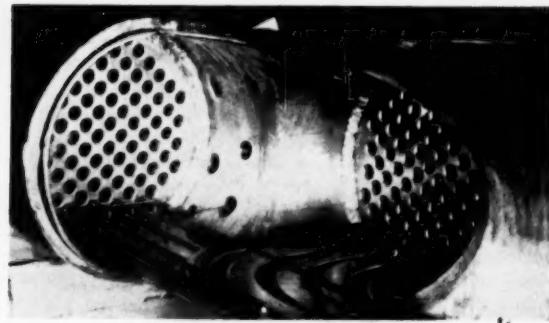
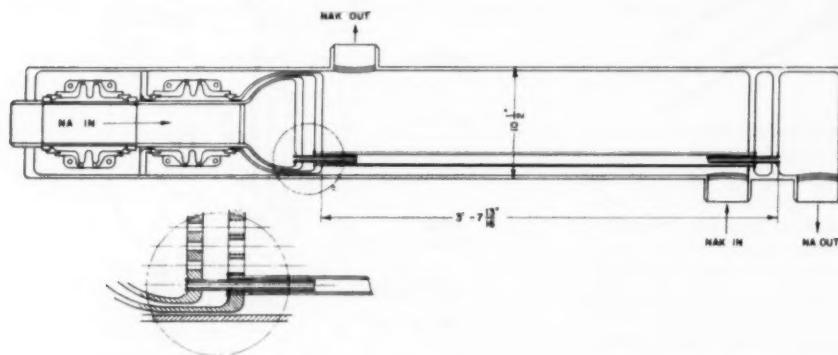

FIG. 4 SODIUM TO SODIUM-POTASSIUM HEAT EXCHANGER—FLAT TUBES
FIG. 3 SODIUM TO SODIUM-POTASSIUM HEAT EXCHANGER—CONCENTRIC TUBES
The "intermediate" liquid-metal heat exchangers are illustrated in Figs. 3 and 4. The main requirements for these units were: (1) "leak-proofness" between the fluids and to the atmosphere, and (2) minimum volume. The first requirement led to the selection of schemes for separating the fluids with two separate walls. The design shown in Fig. 3 is essentially a tube-and-shell heat exchanger modified to include concentric tubes and double tube sheets. Sodium fills the annulus between the tubes to provide a heat-transfer bond. It can be monitored for leakage of either fluid into the annulus. The design shown in Fig. 4 employs flattened tubes bent into hockey-stick shape and swaged round at the tube sheet. The primary and secondary fluids flow in separate sets of tubes, entering the